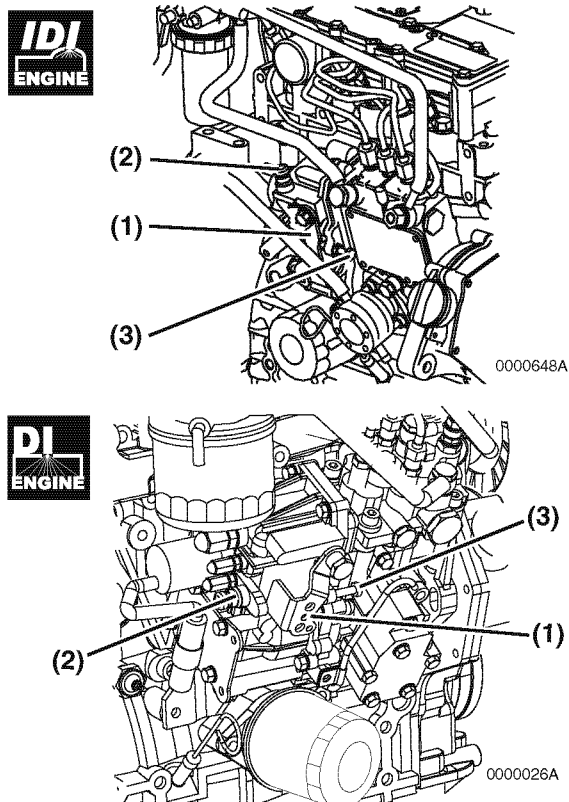

Figure 15
The governor lever (**Figure 15, (1)**) controls the engine speed. The lever is linked to the engine speed control device in the driven machine.
The high idle speed limit screw (**Figure 15, (2)**) restricts the maximum engine speed when the engine is operated without a load.
The low idle speed limit screw (**Figure 15, (3)**) sets engine speed while it is idling.